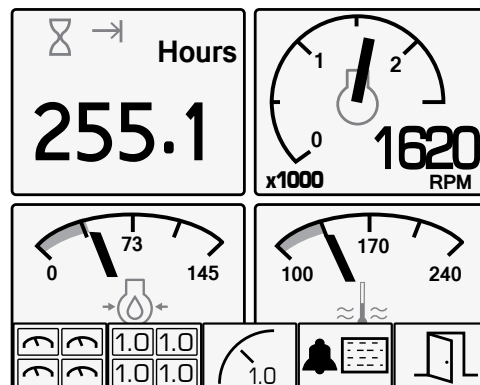

**Figure 11. Initial Screen - Analog Gauges**
2. After a brief self-test, the display will initially show the analog gauges (see Figure 11). On subsequent startups, the screen that was last used will be displayed.